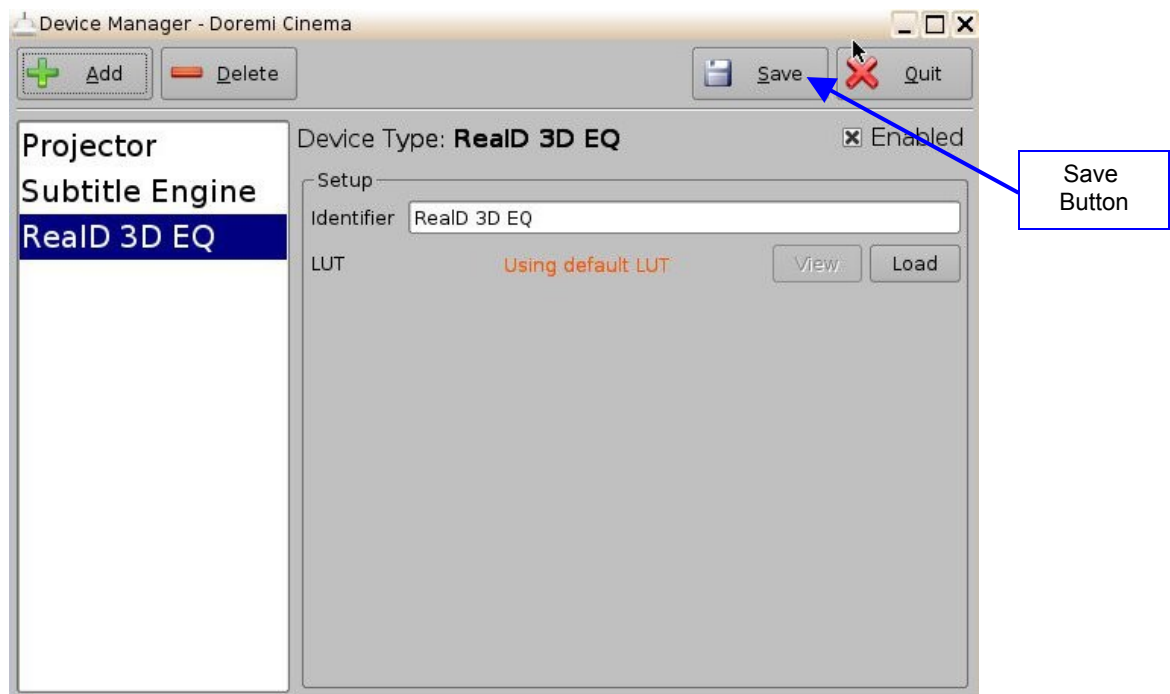

Figure 107: RealD 3D EQ Device Added
- To complete the configuration, click the Save button (Figure 107). Enter the appropriate password and click Ok.